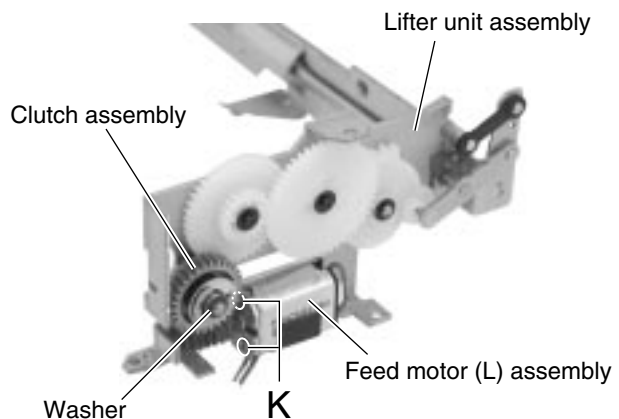

Fig.11
### ■ Removing the feed motor (L) (See Fig.11)